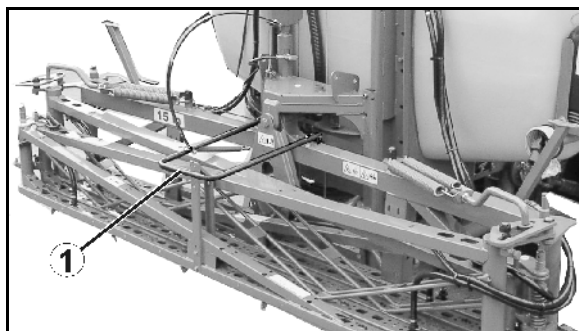

Fig. 9
- Transport locking mechanism (Fig. 9/1) to prevent the Q-plus boom from folding out unintentionally